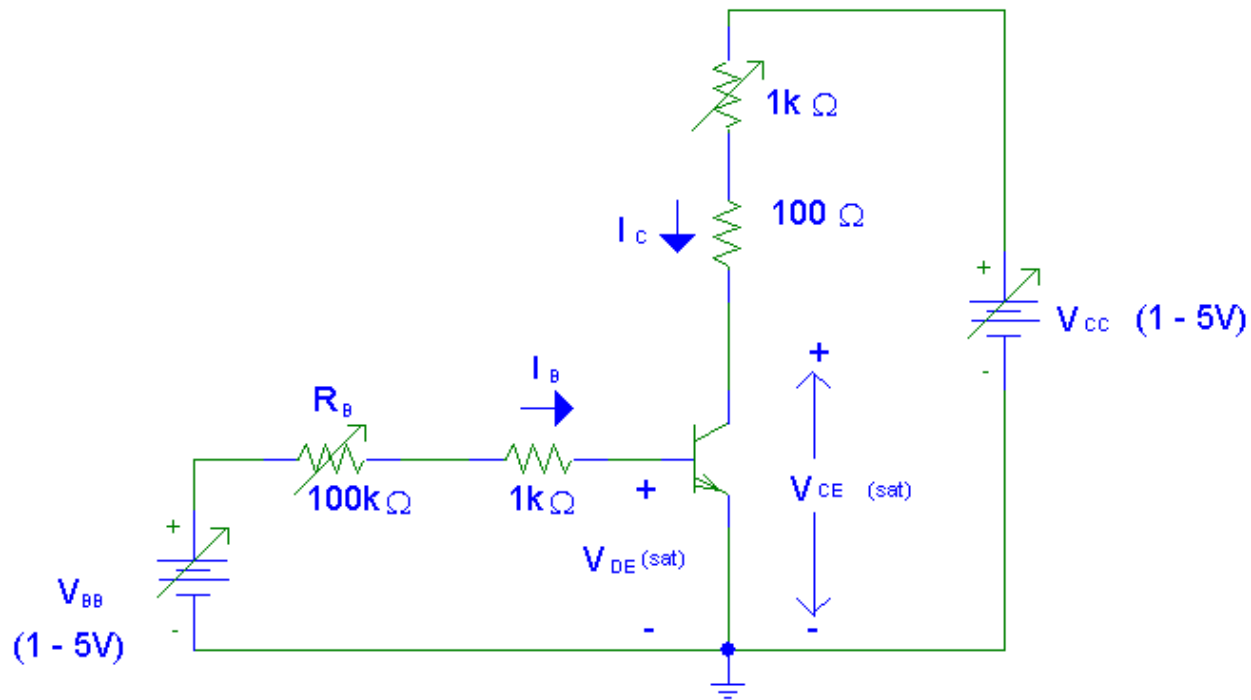

Figure 5
- Measure $V_{BE,sat}$ and $V_{CE,sat}$ as a function of $\sigma = I_C/(\beta_F I_B)$ in the circuit of Figure 5. Record these in the table below. Also, calculate $V_{CE,sat}$ using (18) by choosing typical values from the data from Part 1 and 2 for β_F and β_R . Make a graph of $V_{CE,sat}$ vs. σ . Compare the graph computed with (18) to the actual experimental curve. Do the measured and calculated values agree? If not, explain why?